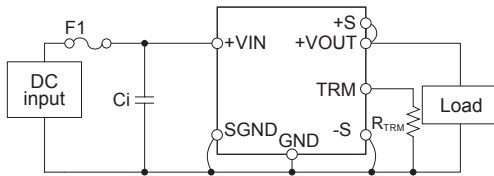

Fig.1.1 Connection for standard use
■ In order to use power supply, it is necessary to wire as shown in Fig 1.1.